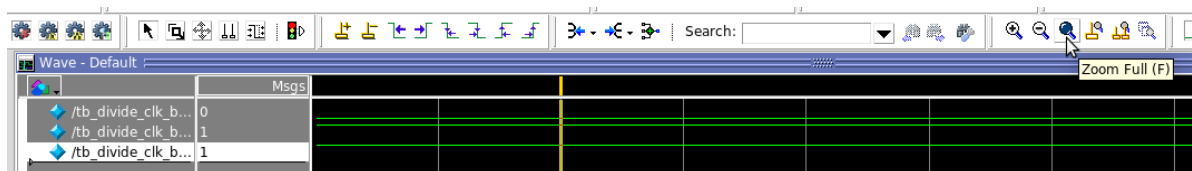

Figure 13: Zooming out in wave panel.
11. In order to properly view our waveforms, we must zoom out. We can do this by either clicking on the icon to the right to the magnifier with the - sign, or by simply clicking anywhere in the wave panel and pressing **F**, as shown in Figure 13.